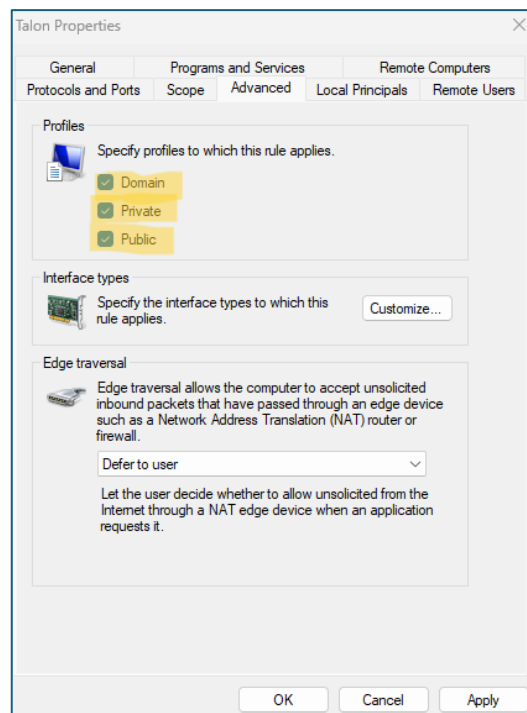

Figure 53 Talon firewall rule with all network profiles enabled.
- iii. Ensure that all network profiles are enabled as shown in Figure 53.